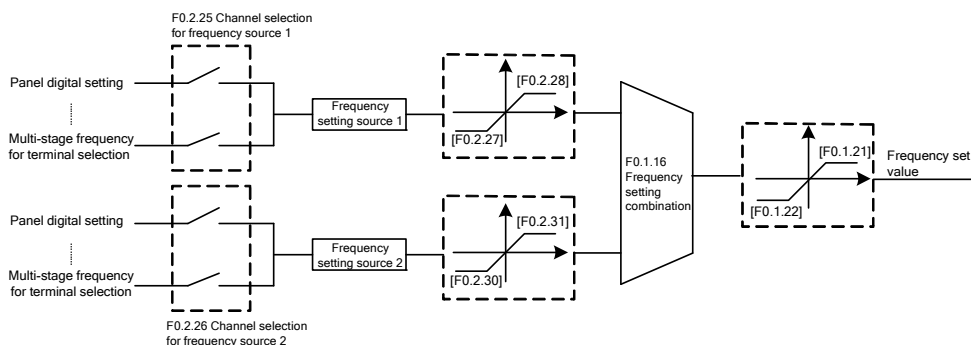

Figure 7-7 Structure sketch of frequency setting channel
This function defines three kinds of modes for selecting the control command source, as shown in Figure 7-7:
The **A510** series inverter has two frequency setting sources (corresponding parameters **F0.2.25**, **F0.2.26**). This parameter determines **14** kinds of combined calculation methods for the two frequency setting sources. Figure 7-7 shows the structure sketch of the frequency setting channel.
- [F1.2.15] in Figure 7-7 represents the motor's reference frequency, and [F1.2.16] represents the motor's reference voltage.